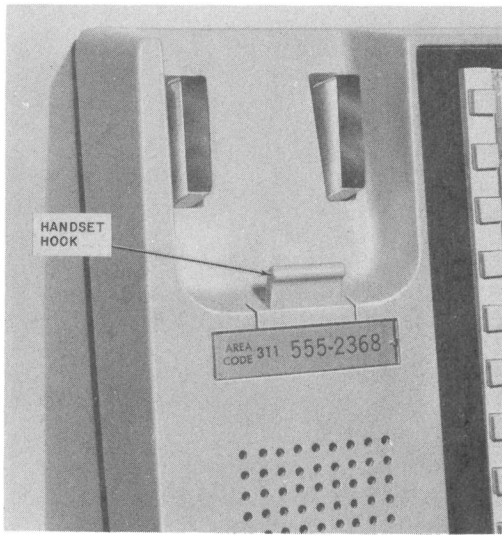
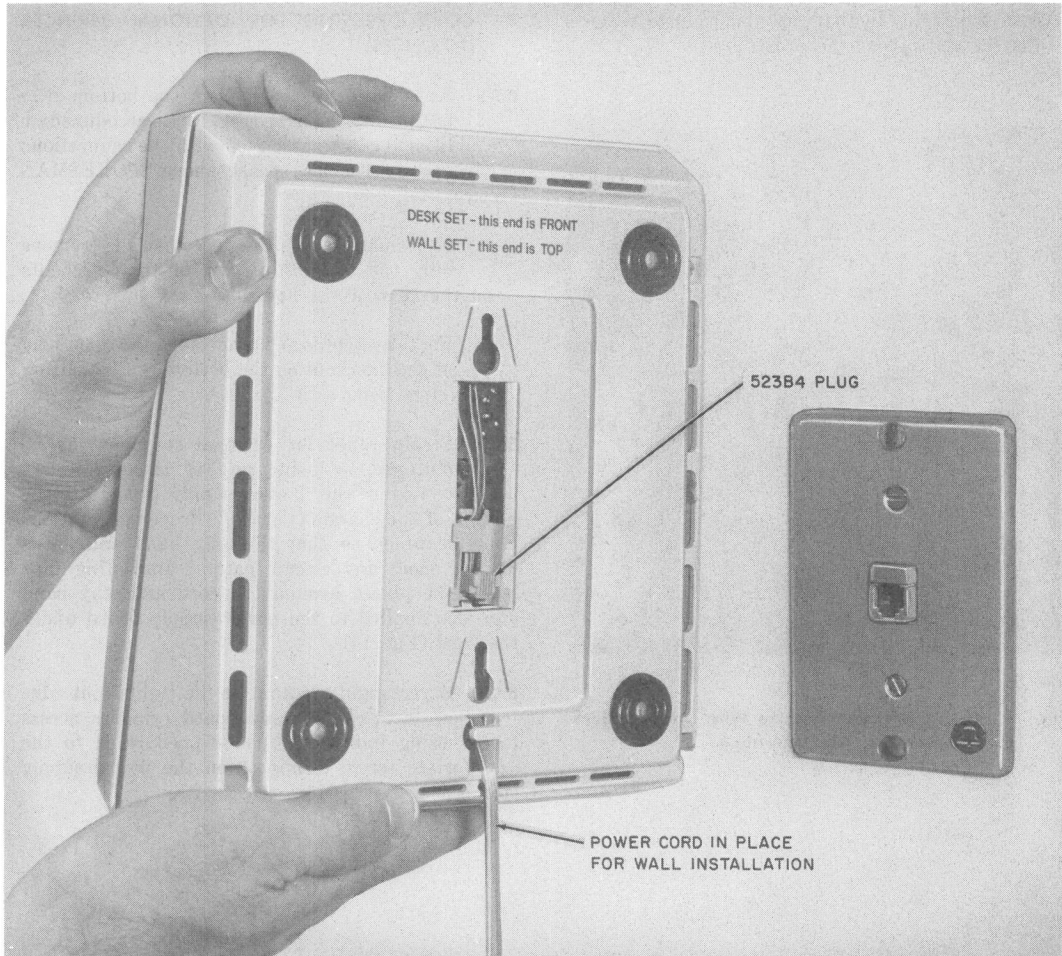

Fig. 11—960A01M Telephone Set With Handset Hook Reversed for Wall Mounting
Fig. 12—960A01M Wall Set and 630A4 Connecting Block
- (6) Insert the power cord up through the cord opening below the plastic retainer tab in the bottom of the lower housing (Fig. 12).
- (8) Place the lower housing on the chassis according to the instructions on the bottom (Fig. 12), and engage the four captive screws.
- (9) Remove the station number card retainer and station number card from the upper housing.
- (10) Disengage the captive screw from the chassis and lift out the concealed handset hook and screw from the cavity in the upper housing.
- (4) Remove the 523B4 plug from its stored position and snap both sides of the plug into rectangular slot in the bottom of the lower housing. Snap plug in from the outside such that the word **TOP** is properly oriented in the housing (Fig. 12). The plug should slide freely in the slot.
- (5) Insert the other end of the 523B4 plug into the jack position designated **PHONE** on the power supply board.
- (11) Completely remove the captive screw from one side of the handset hook and insert it into the other side.
- (12) Place the handset hook back into its cavity in the upper housing, engage the screw with the chassis, and fasten the hook down (Fig. 11).
- (13) Replace the station number card and card retainer.
- (14) The converted wall set is intended to plug into and secure to a 630A4 connecting block (Fig. 12 and 16B).